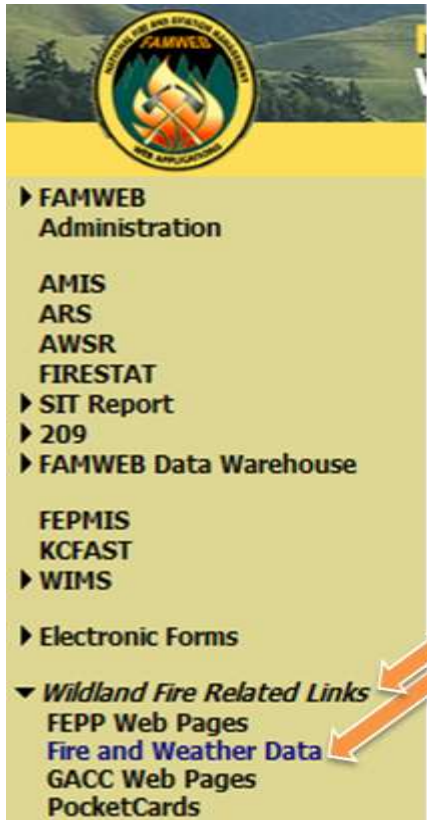

Figure 3-8—FAMWEB fire and weather data.
- 3) Go to the National Fire and Aviation Management webpage (FAMWEB): <https://fam.nwcg.gov/fam-web/> and click on **Wildland Fire Related Links** and then **Fire and Weather Data** on the left hand side menu bar (fig. 3-8).